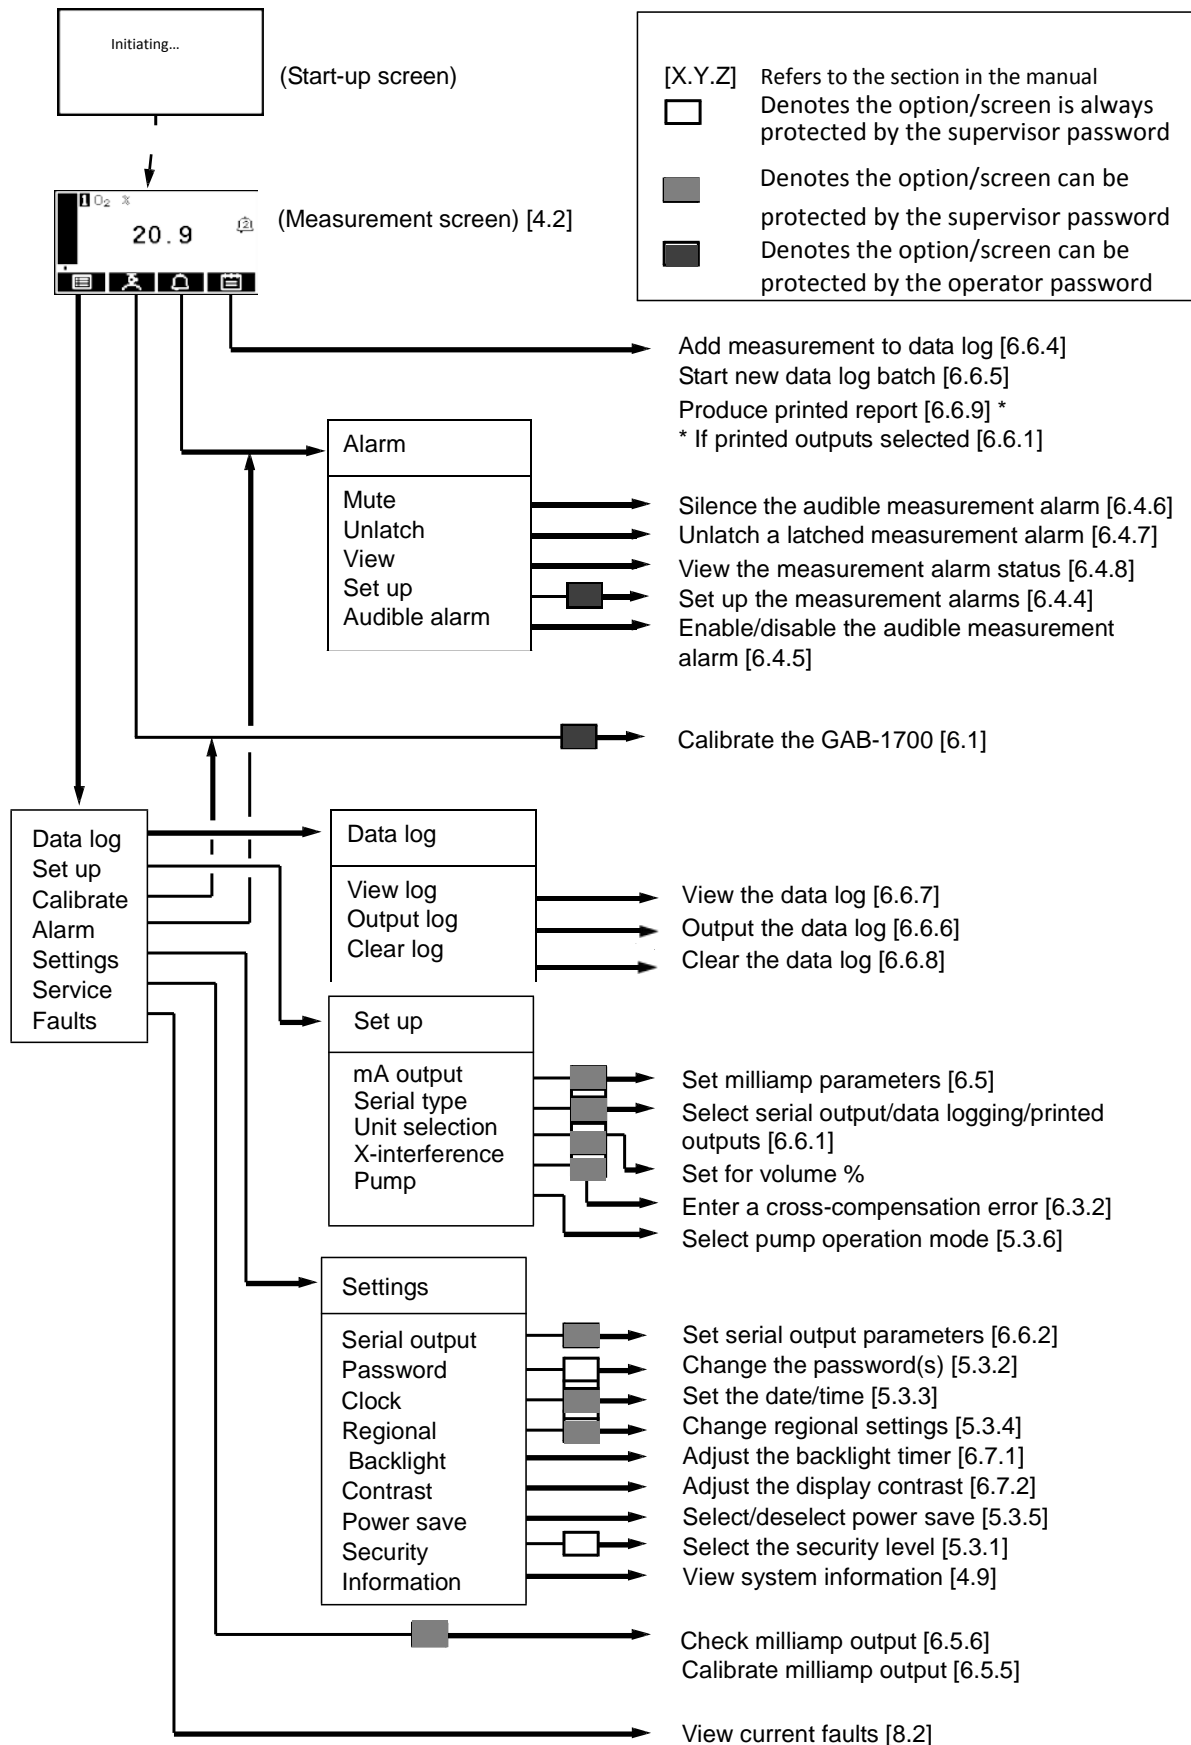

Figure 4 - The GAB-1700 menu structure
-  If no soft key is pressed for 10 minutes, the Measurement screen will be automatically displayed. (You will also then have to enter the password again to access any password-protected screens: refer to Figure 4 and to Section 4.6.)
The menu structure of the GAB-1700 is shown in Figure 4, which shows that some of the options/screens are password protected.
Refer to Figure 4 to see the options/screens which can be password-protected within the menu structure.